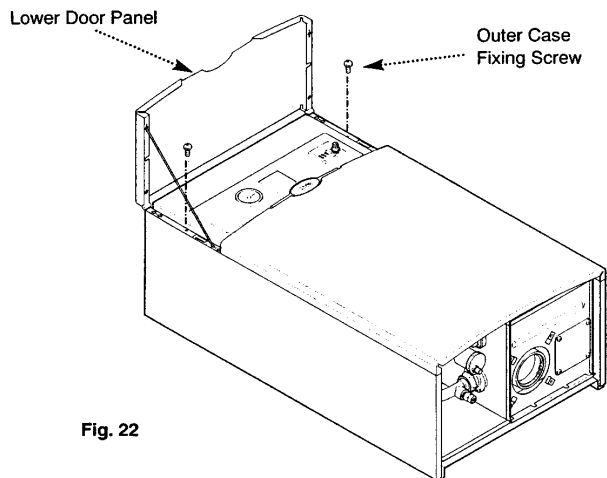

Fig. 22
2. Hinge the lower door panel open and remove the outer case fixing screws (Fig. 22). Close the door against its retaining magnets.